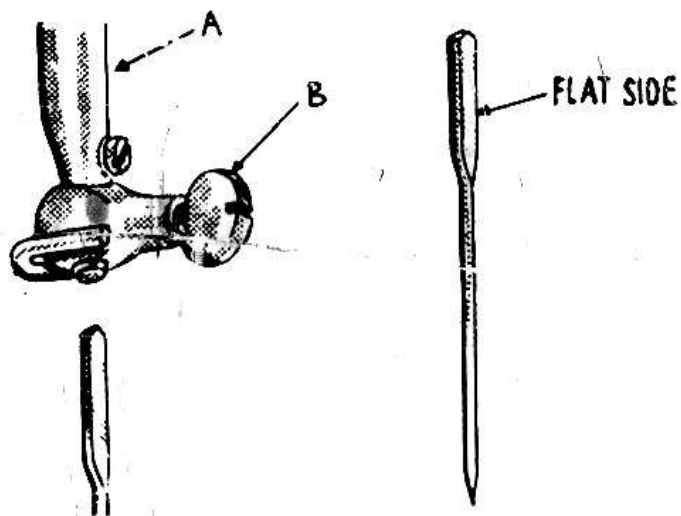

Fig. 1
Turn Balance Wheel towards you until NEEDLE BAR Fig 1 (A) is at its highest point, then loosen the NEEDLE CLAMP SCREW Fig 1 (B). Hold needle with point down and insert needle with the flat surface to the right into the needle clamp as far as it will go. Then tighten the Needle Clamp Screw.